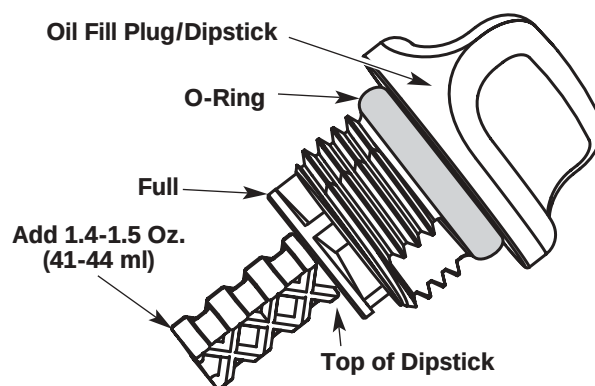

Fig. 40
5. Remove the oil fill plug/dipstick and check oil level. Oil should be up to the top of the dipstick (Fig. 40).